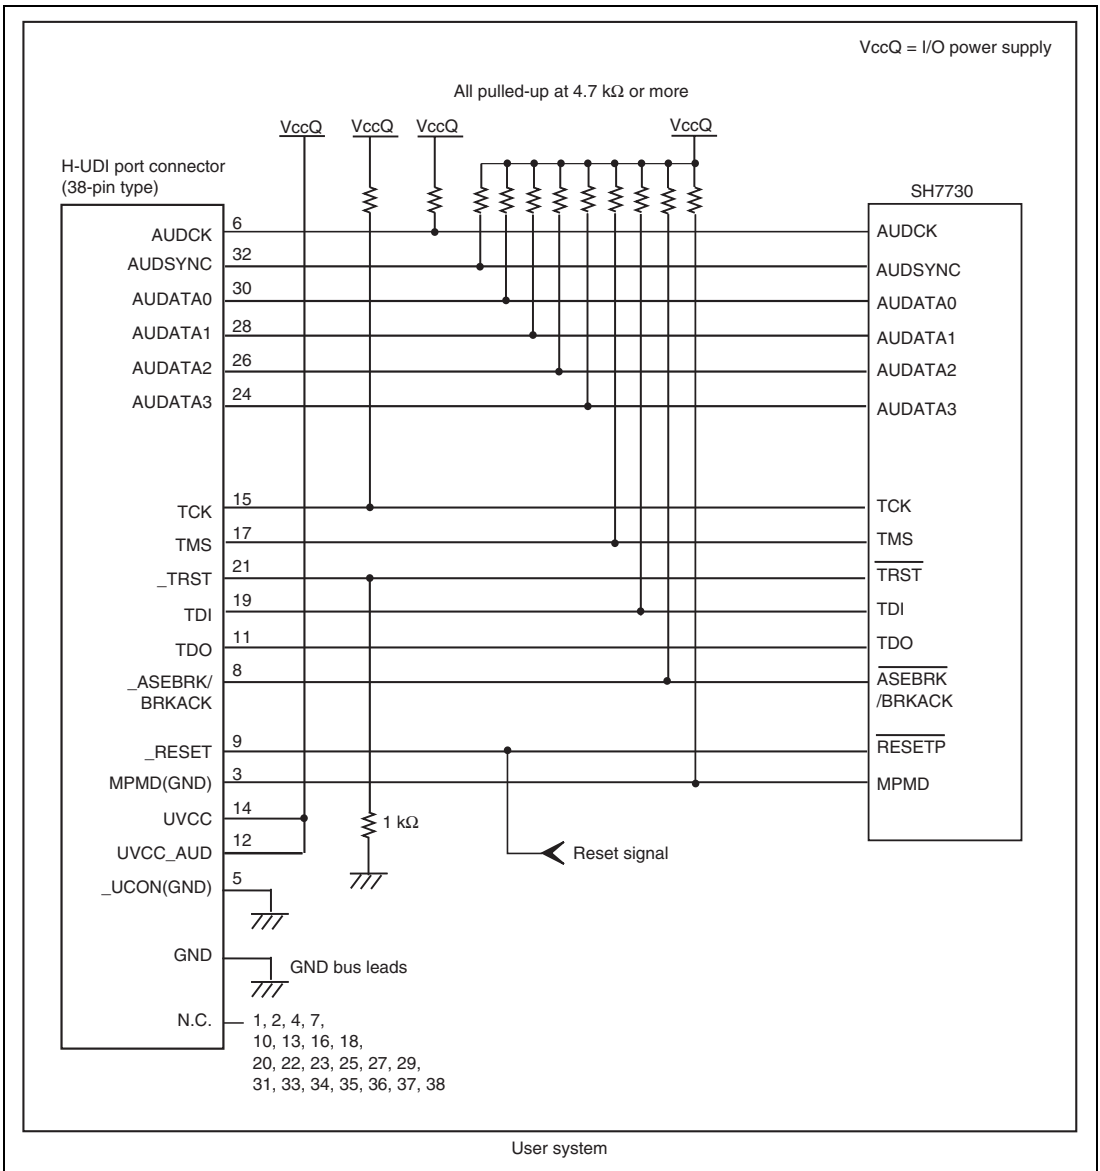

Figure 1.7 Recommended Circuit for Connection between the H-UDI Port Connector and MPU when the Emulator is in Use (38-Pin Type)
Figure 1.7 shows a recommended circuit for connection between the H-UDI and AUD port connectors (38 pins) and the MPU when the emulator is in use.
- (1) When the emulator is used: MPMD = 0
- (2) When the emulator is not used: MPMD = 1Figure 1.7 shows an example of circuits that allow the MPMD pin to be GND (0) whenever the emulator is connected by using the user system interface cable. When the MPMD pin is changed by switches, etc., ground pin 3. Do not connect this pin to the MPMD pin.
7. The resistance value shown in figure 1.7 is for reference.
When the circuit is connected as shown in figure 1.7, the switches of the emulator are set as SW2 = 1 and SW3 = 1. For details, refer to section 3.8, Setting the DIP Switches, in the SuperH™ Family E10A-USB Emulator User's Manual.